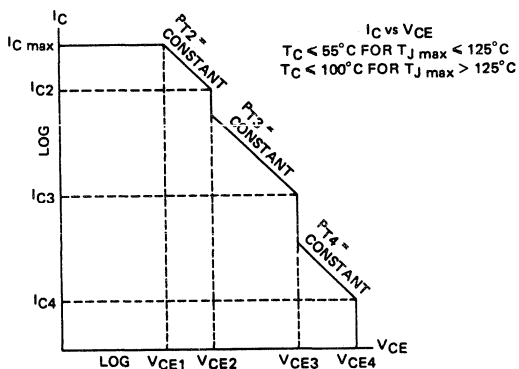

FIGURE 1
Figure 1 shows a Forward-Biased Continuous Safe Operating Area. For $V_{CE} \leq V_{CE1}$ the total power dissipation P_T is limited by $I_C \text{ max}$. At increasing V_{CE} the power dissipation capability of most transistors is decreasing gradually. Because the rate of decrease depends on the individual transistor, it is suggested to use P_{T3} for $V_{CE2} < V_{CE} \leq V_{CE3}$ and P_{T4} for $V_{CE3} < V_{CE} \leq V_{CE4}$.
For the area given in Figure 1, safe operation is assured with forward bias only (I_B is positive for npn transistors, negative for pnp transistors). High-current germanium transistors may have I_{CEO} leakage currents of 1 A or more at high junction temperatures. It is not recommended to operate transistors continuously at currents smaller than I_{CEO} except in a temperature-stable cutoff condition.
The number of test points is arbitrary. The Safe Operating Area in Figure 1 requires three (3) test points: I_{C2} at V_{CE2} , I_{C3} at V_{CE3} and I_{C4} at V_{CE4} . Test points should be selected using the principle that only the verified P_{Tn} is assured for V_{CE} 's smaller than the test point voltage V_{CEn} .